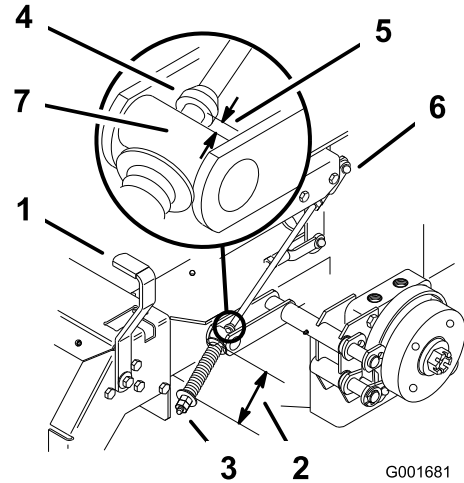

Figure 50
2. Measure the length of the spring; the measurement should be 2-3/4 inch (74 mm) between the washers (Figure 50).
- A. Loosen the jam nut below the spring and tighten the nut directly below the yoke (Figure 50).
6. Measure the distance between the trunnion roller and the collar on the brake rod. The measurement should be 3/16 to 1/4 inch (5 to 7 mm) (Figure 50).
- B. Turn the bottom adjusting nuts until the correct measurement is obtained (Figure 50).